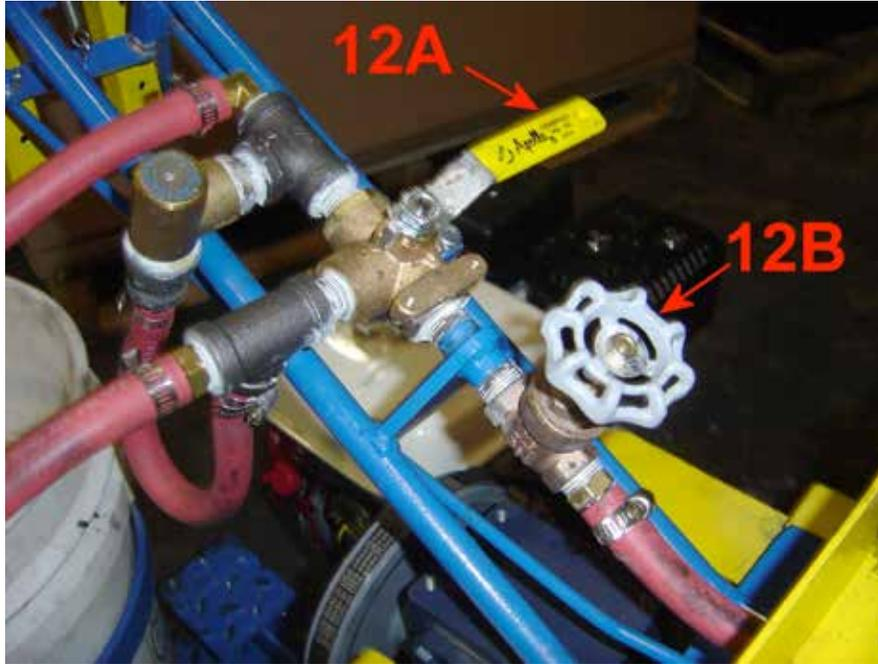

Figure 12 Glue System Layout
1. The glue system operates using a belt driven positive displacement pump. The pump is fed by a pipe that is dropped into a glue bucket. The glue pump feeds the operator control panel (Figure 12). Glue flow is directed by the 3-way valve (12A). Flow rate is controlled by the gate valve (12B).